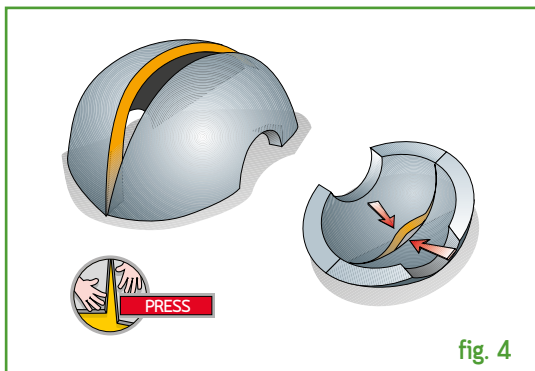

fig. 4
Cover the elbow joint with the piece obtained, glue the cut edges by pressing them to make them adhere well and to fit with other straight sections of the same diameter (fig 4)
4) Once the glue has dried, join the two flat sections, start gluing from the ends, making sure that the join is also perfect on the other side. (fig 4)